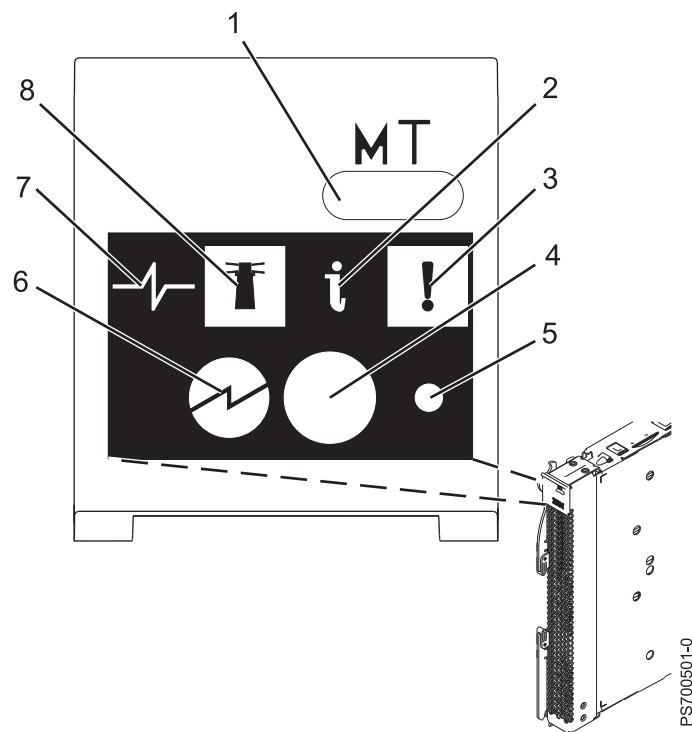

Figure 1. Blade server control panel buttons and LEDs
**Note:** Figure 1 shows the control-panel door in the closed (normal) position. To access the power-control button, you must open the control-panel door.